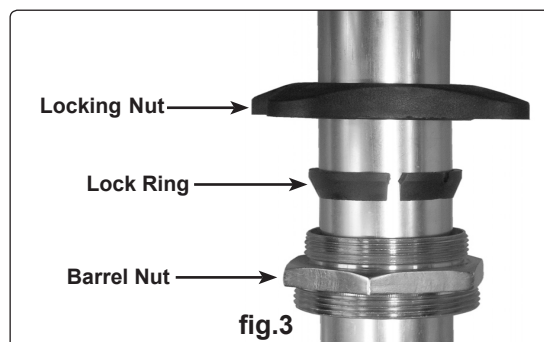

fig.3
- 3.2.4 Slide the locking nut, locking ring and the barrel nut onto the pick up probe of the pump (fig.3), screw the locking nut onto the barrel nut to lock the assembly to the pick up probe.